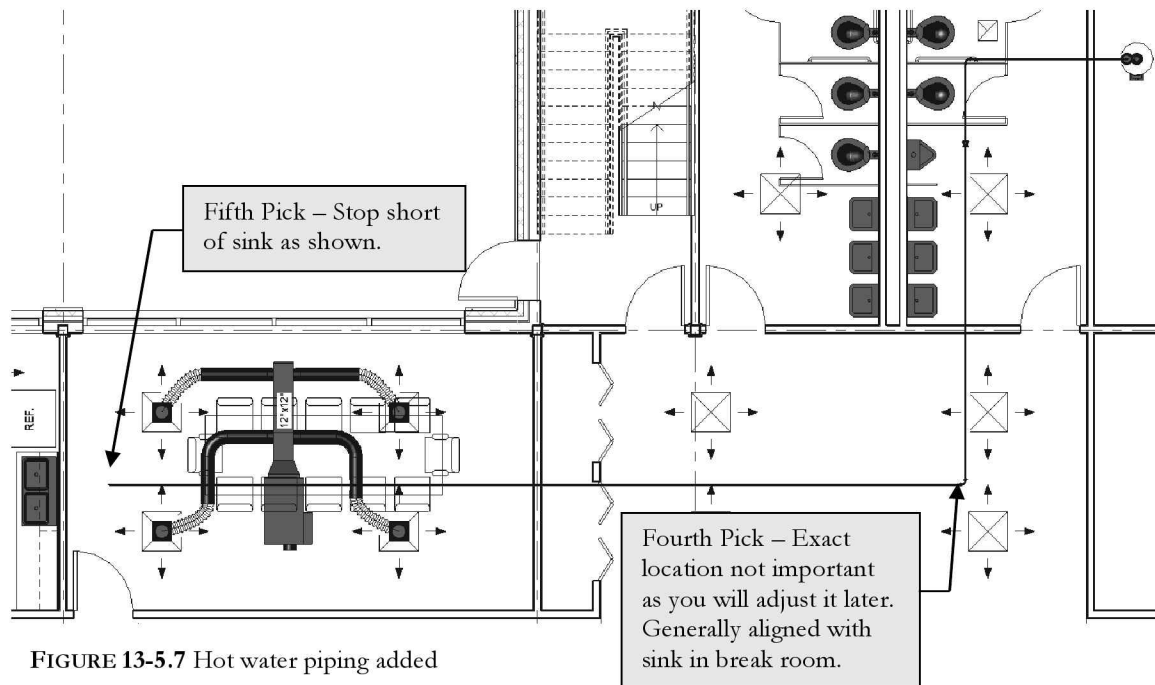

FIGURE 13-5.7 Hot water piping added
19. Pick points 4 and 5 as shown in Figure 13-5.7.